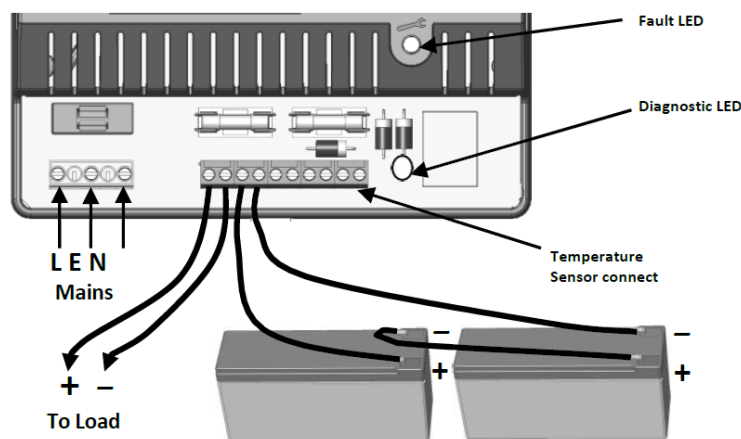

Figure 3 - Connections
- 10) Connect the two 12 V standby batteries in series using the single cable provided. Connect the negative of one battery to the positive of the other. See Figure 3.